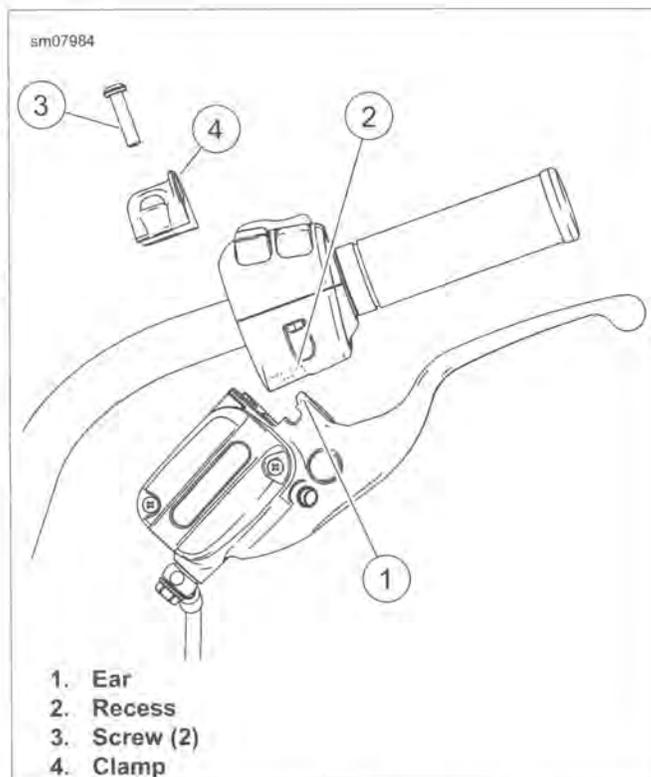

Figure 2-92. Hand Control Assembly (typical)
1. See Figure 2-92. Position clutch lever/master cylinder reservoir assembly, engaging ear (1) in recess (2) at top of brake lever bracket.